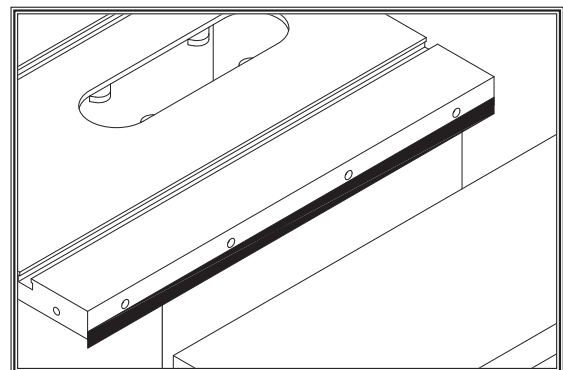

Figure 14. Masking tape location for tilting the extension wing up.
- If the outside end of the extension wing tilts down, use a strip of masking tape along the bottom edge of the main table to shim the extension wing up (**Figure 14**).